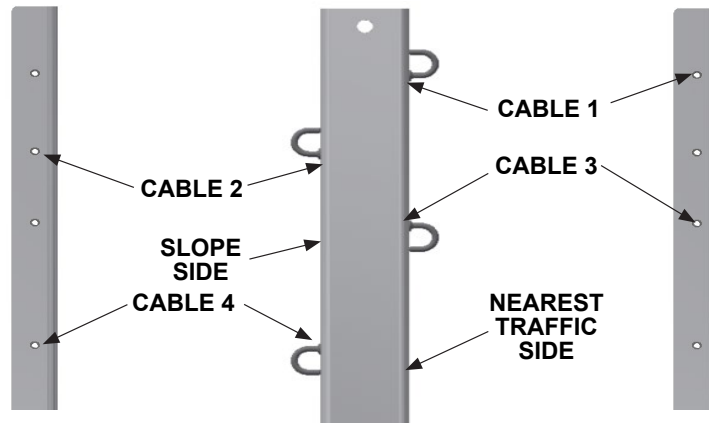

Figure 11
1. Locate the holes for the Cable Hook Bolts on CET™ U-Shaped Posts Two and Three. See Figures 11 and 12.